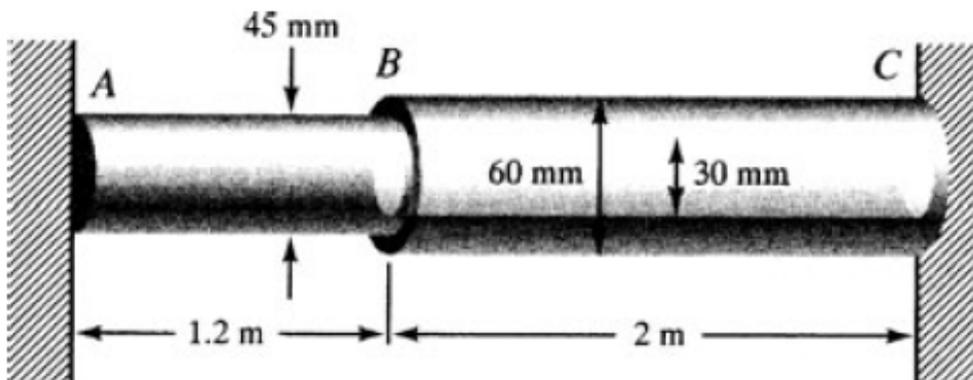

Fig.Q6
- (b) A stepped shaft has the appearance shown in **Fig.Q6**. The region *AB* is aluminium, having $G = 28 \text{ GPa}$, and the region *BC* is steel, having $G = 84 \text{ GPa}$. The aluminium portion is of solid circular cross section 45 mm in diameter, and the steel region is circular with 60-mm outside diameter and 30-mm inside diameter. A torsional load of $4000 \text{ N} \cdot \text{m}$ is applied at point *B*, whereas ends *A* and *C* are rigidly clamped. Determine the followings: